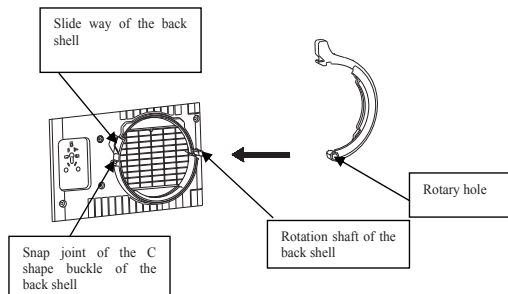

Figure 1
- 2) Point the rotary hole at the end of the heat exhaust hose snap toward the rotation shaft of the back shell and slide it onto the back shell in accordance with the snap joint direction of the rotation shaft on the back shell (as shown in Figure 1).